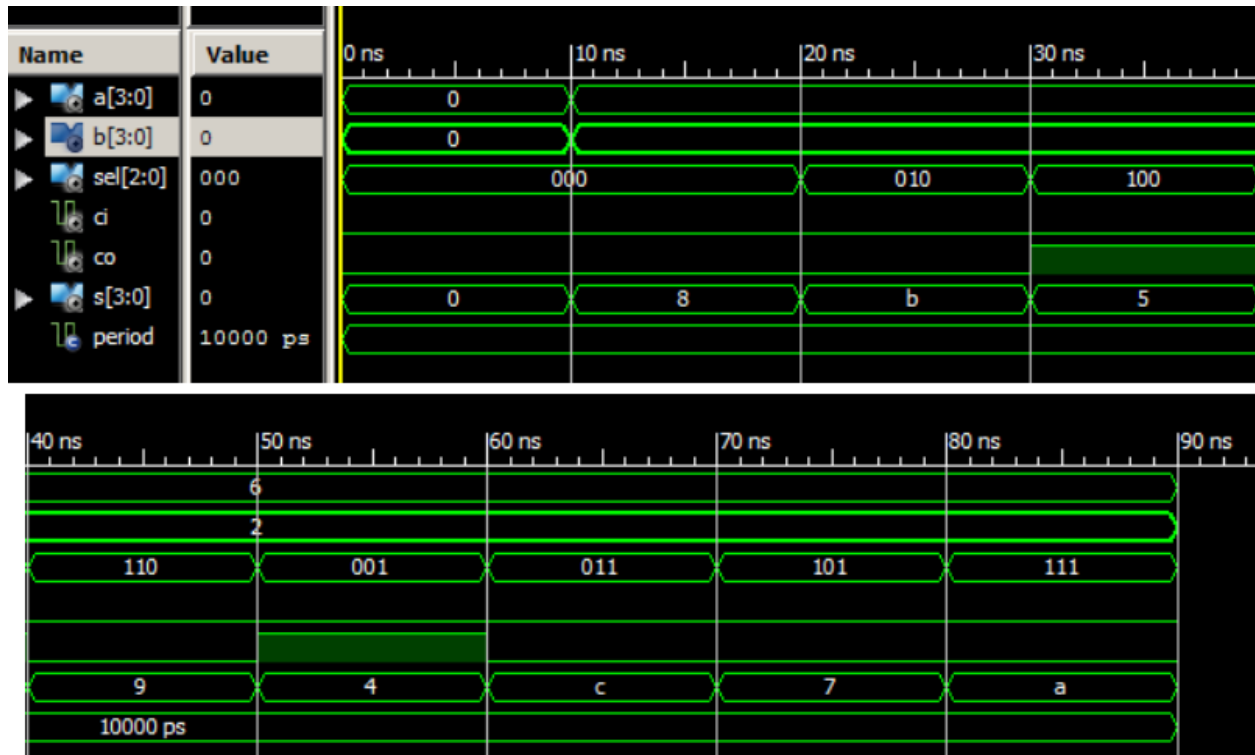

Figure 4 Shows the logic waveform of the specified 4-bit ALU.
In **Figure 4**, sample inputs $a = 6$ and $b = 2$ were used to run through each arithmetic operation using the select lines $sel[2:0] = \{S1, S0, Cin\}$. For example $sel = "001"$ is the operation $a - b$, thus in this case $6 - 2 = 4$ (100), which is shown in the above figure. VHDL Implementation can be found in **Appendix D**.